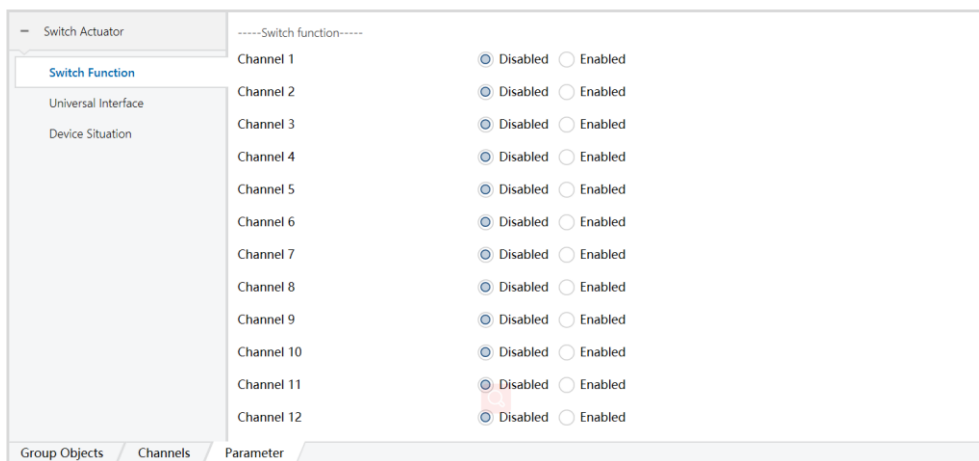

Figure 6.1.1
- 1) Open the 20A series switching actuator module parameter setting interface in ETS5, as shown in Figure 6.1.1. The parameter "Channel X" indicates the output of the corresponding channel. The parameter "Field control" indicates the